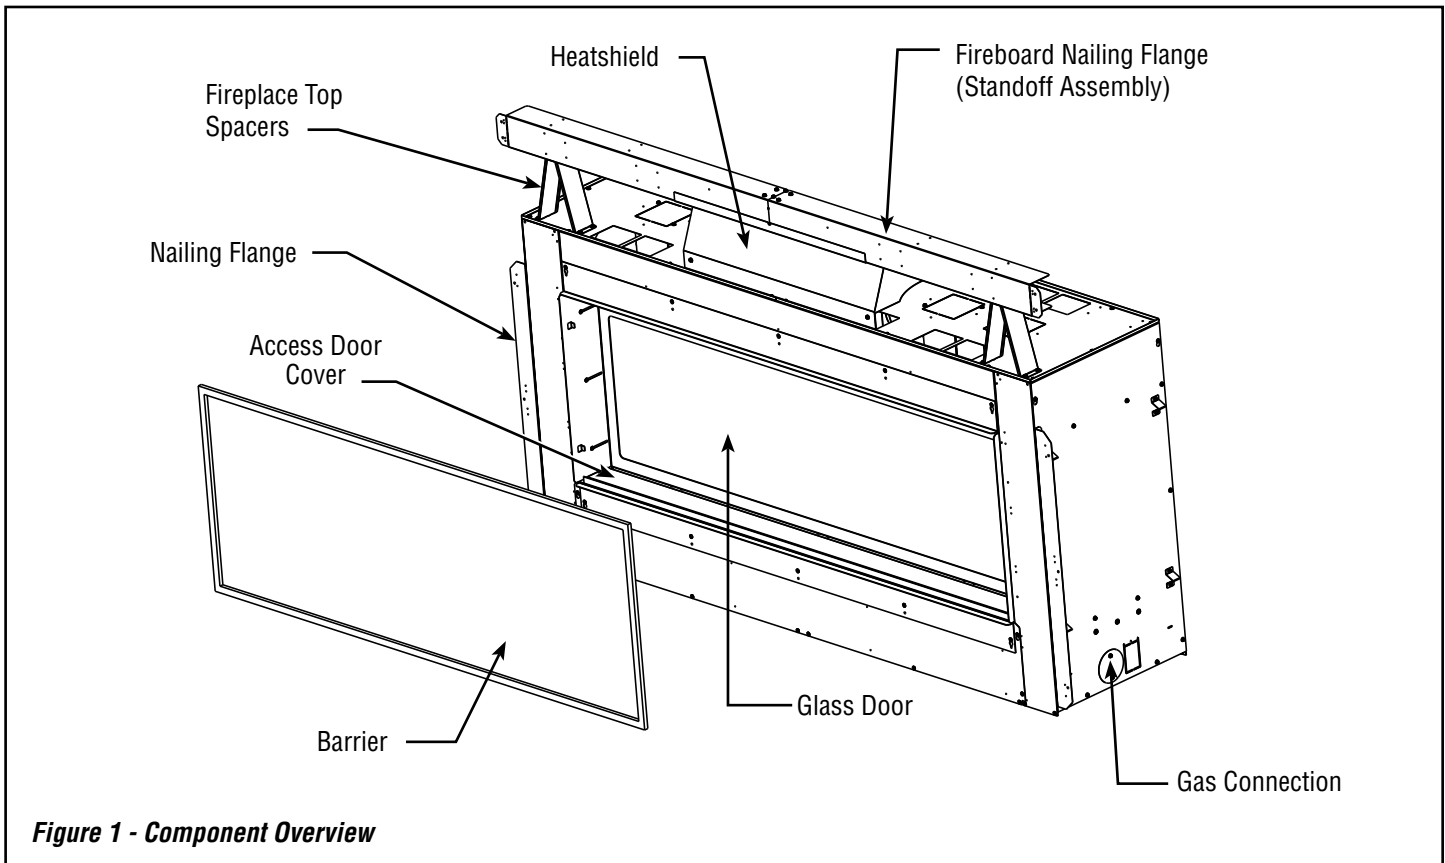

Figure 1 - Component Overview
- 60" Models - Three (3), 5 lb. bags
- 72" Models - Four (4), 5 lb. bags
- 84" Models - Five (5), 5 lb. bags
- One (1), Hand Held Remote Control
- Four (4), AA Batteries
- Four (4), AAA Batteries
- One (1), Fireboard Top
- One (1), Fireboard Bottom
- Two (2), Fireboard Sides
- One (1) Standoff Assembly (*see Figure 1*)
- One (1) Heat Shield (*see Figure 1*)
- Twelve (12) #10 Hex Head Screws